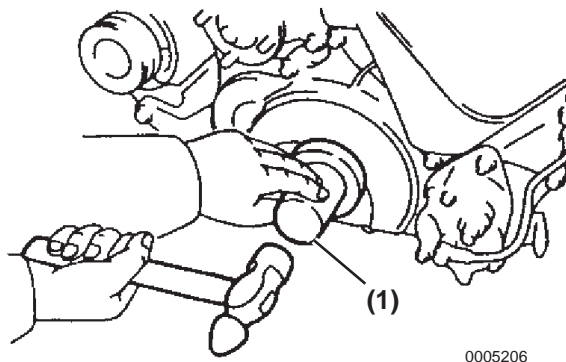

Figure 5-206
3. Tap in a new oil seal to install using special tool P/N 119770-01100 (**Figure 5-206, (1)**), until the surface is level with that of the timing gear cover.